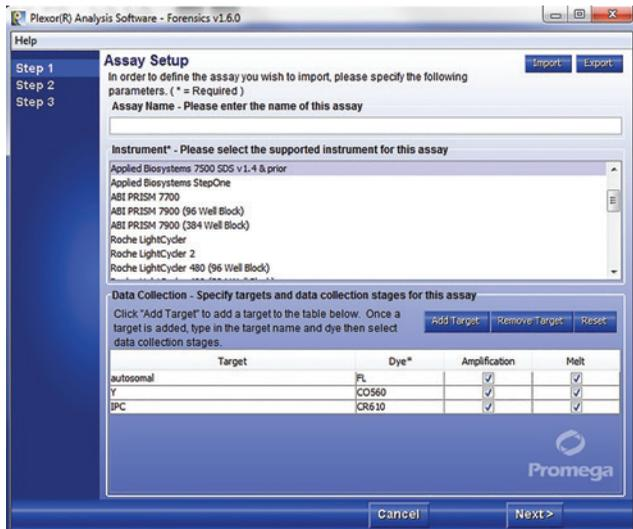

Figure 30. Step 1 – Assay Setup screen.
4. **Optional:** Enter an assay name in the Assay Setup screen, Step 1 (Figure 30). This screen is used to enter information about the type and format of data that will be used for each assay.
1. If the names of the dyes you have entered do not match those listed in the data files, an error message will appear (Figure 33). If this message appears, return to the Assay Setup screen, Step 1 (Figure 30). Click on the Dye field under the Data Collection heading, and enter the dye names exactly as shown in the error message after “Found:”. Any dye name entered must exist in the data file. Repeat Steps 7–12 of this protocol.